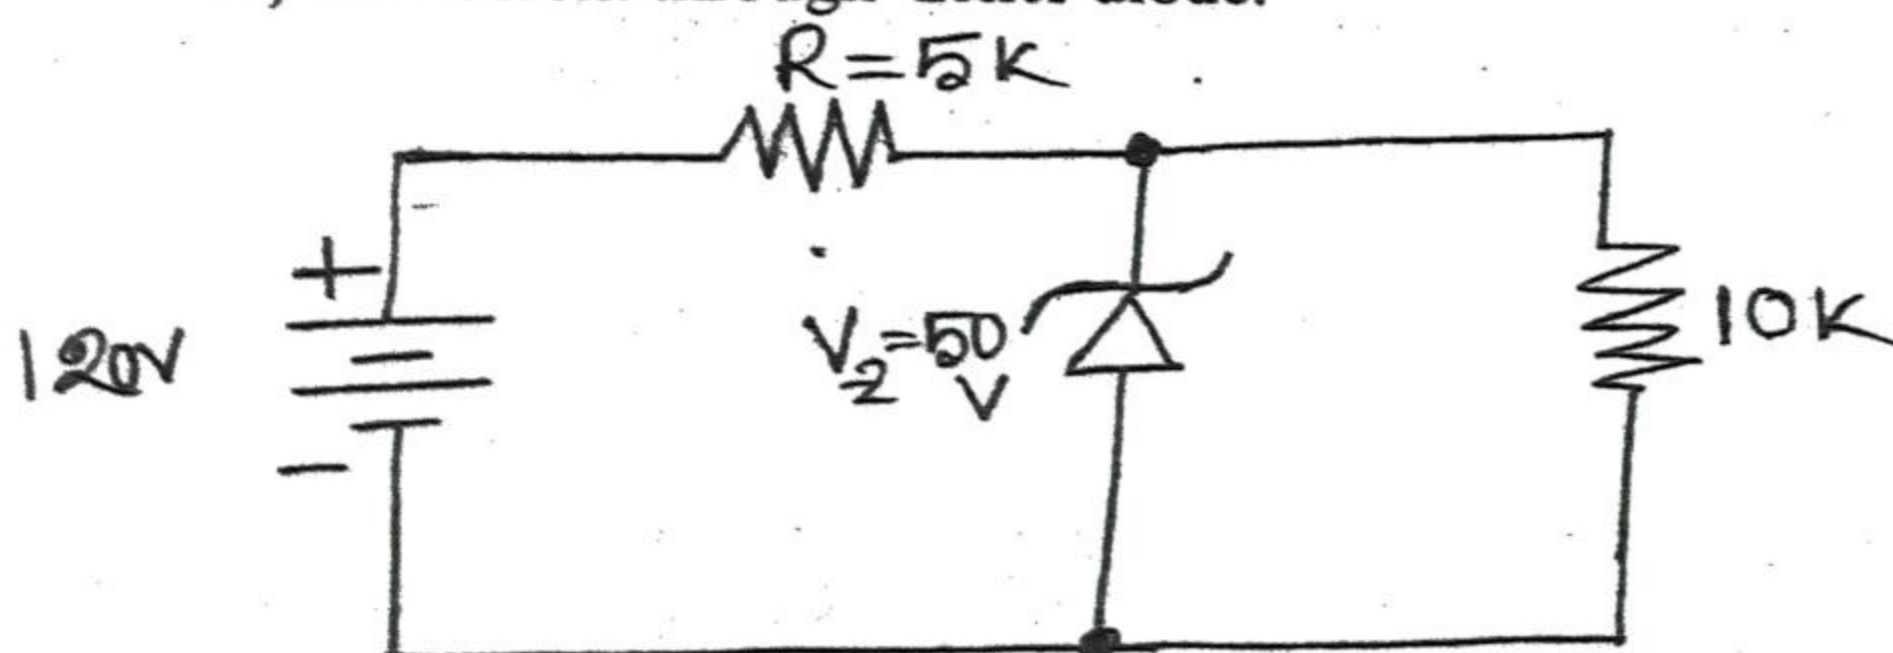

Figure: 5
- b) For the circuit shown in Fig.5 find 4